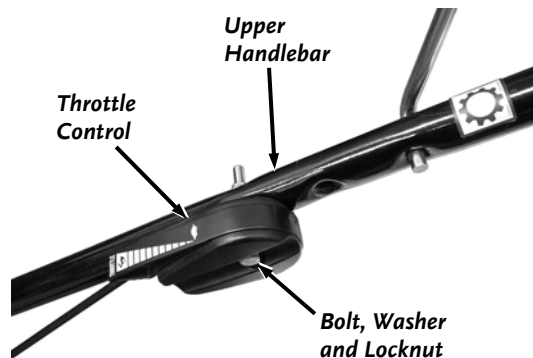

Figure 10
8. Locate the Throttle Control, which is attached to the LLV machine's Engine on the left hand side. Install the Throttle Cable to the Handle by inserting a 1/4-20 x 1-3/4" Bolt and 1/4" Washer through the Throttle Control and the lower hole on the left hand side of the Handlebar (**Figure 10**). Secure with a 1/4-20 Nylon Locknut.